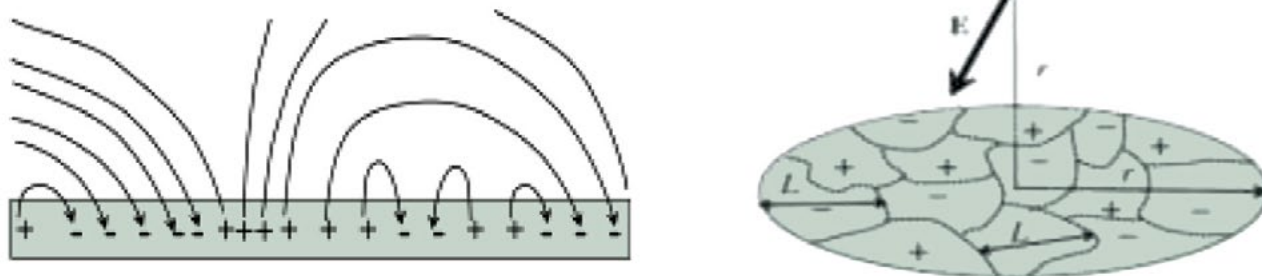

Figure 2: A sketch of the electric field E near a metal surface, cross-sectional (left) and 3D (right) views.
2. Being overall neutral these metal surfaces are composed of oppositely charged patches formed as a result of electron redistribution minimizing the system free energy. The patches are characterized by certain surface charge density and dimensions $L \sim 1$ – 10 μm , maybe even shorter, ~ 0.1 mm, for fine crystalline grain structure. These patches form a sort of random chess board as shown in the right display of Figure 2.
sion L , after which the growth rate remains on average constant. The physical reason of that acceleration is that the longer the whisker the stronger the electrostatic energy gain and its corresponding thermodynamic force pulling the whisker. This process can be explosive (positive feedback) in nature: The stronger the force, the faster the growth, the greater the length, and the stronger the force, etc., as long as the force increases with length (for $h < L$ when the field is more or less uniform). However, in the range of $h \gg L$, the field appears strongly fluctuating (Figure 2) which significantly suppresses the pulling force. As a result, the pulling force becomes independent of whisker length (Figure 5). That distant independent average force results in constant average growth rates.